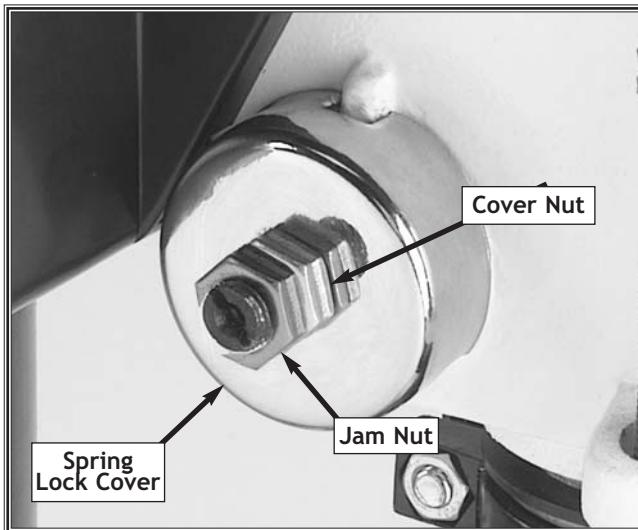

Figure 18. Feed shaft return spring assembly.
2. Wipe off any oil on the spring lock cover so it will not slip in your fingers when you hold the cover from spinning. See **Figure 18**.